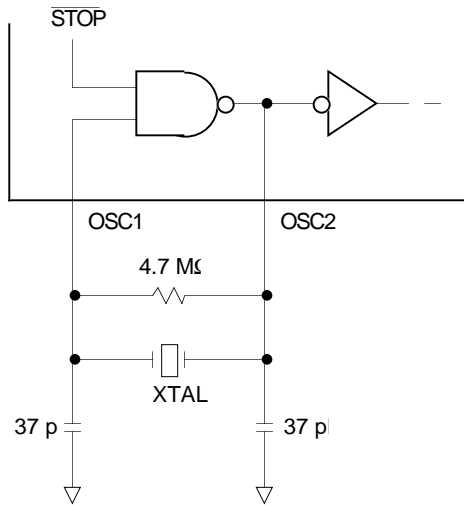

Figure 2-2. Crystal/Ceramic Resonator Connections
- A crystal (Refer to Figure 2-2.)
- A ceramic resonator (Refer to Figure 2-2.)
The circuit in Figure 2-2 shows a typical crystal oscillator circuit for a parallel resonant crystal. Follow the crystal supplier's recommendations, as the crystal parameters determine the external component values required to provide maximum stability and reliable start-up. The load capacitance values used in the oscillator circuit design should include all stray layout capacitances. Mount the crystal and components as close as possible to the pins for start-up stabilization and to minimize output distortion.
In cost-sensitive applications, use a ceramic resonator in place of the crystal. Use the circuit in Figure 2-2 for a ceramic resonator, and follow the resonator manufacturer's recommendations, as the resonator parameters determine the external component values required for maximum stability and reliable starting. The load capacitance values used in the oscillator circuit design should include all stray layout capacitances.